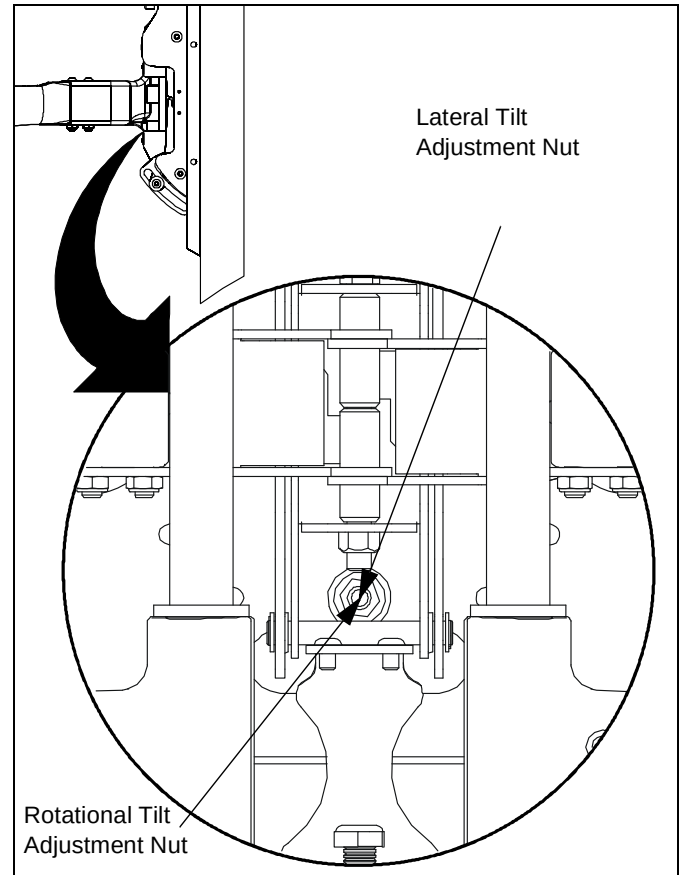

Figure 11
1. Using a 9/16" wrench (not provided), slightly tighten or loosen lateral tilt tension adjustment nut. (See Figure 11)
1. If necessary, loosen or tighten bottom rotational tilt tension adjustment nut. (See Figure 11)